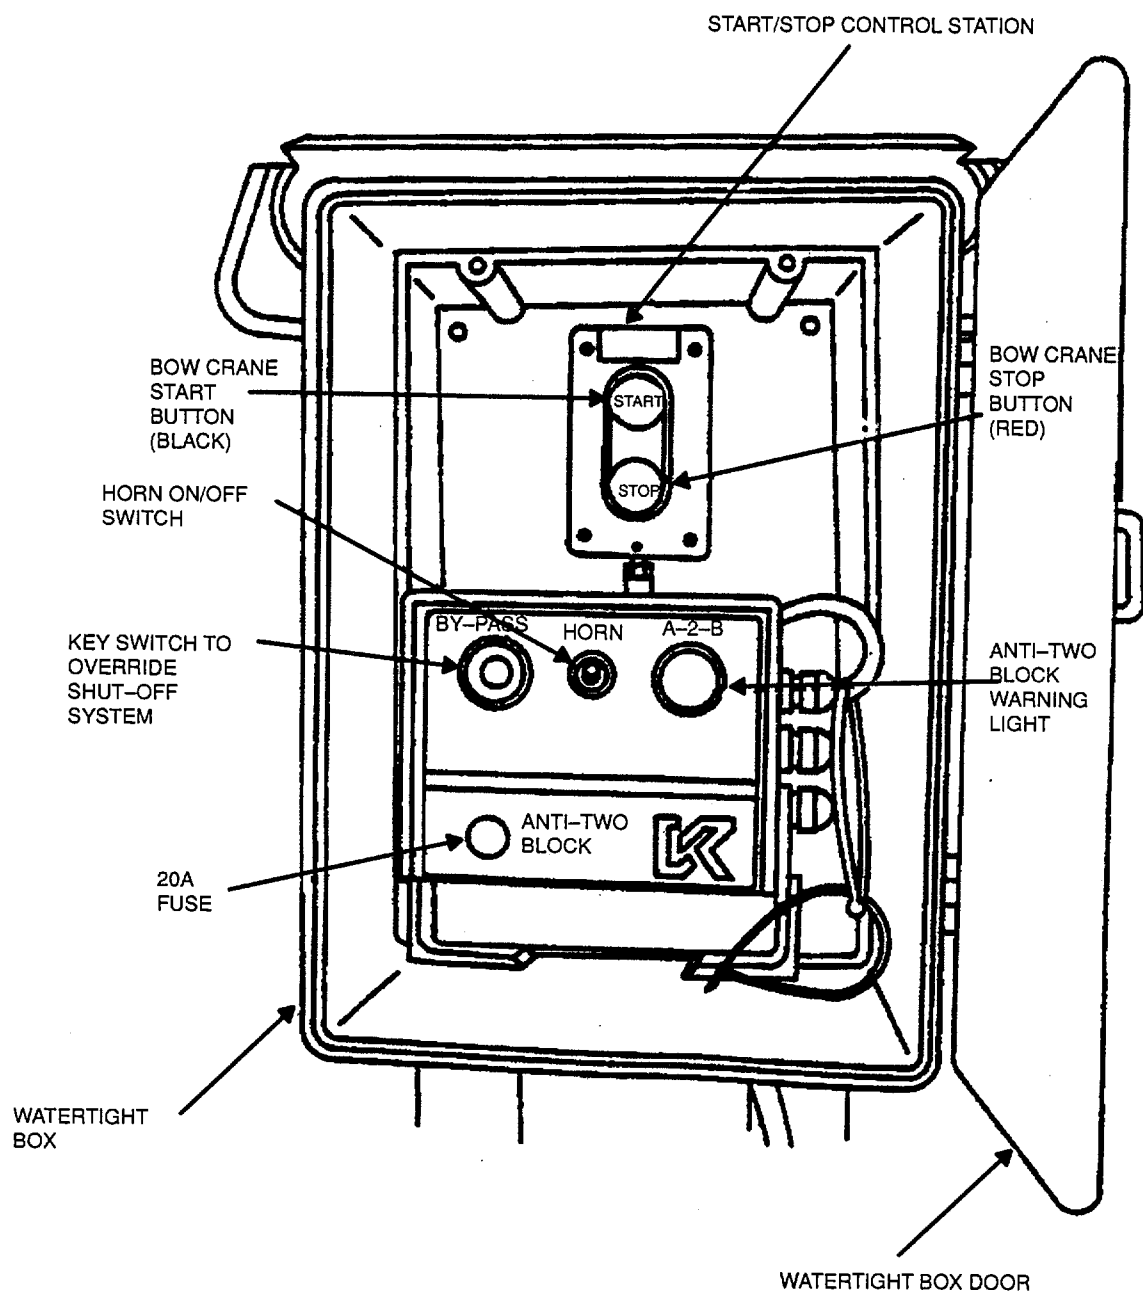

Figure 3-6. START/STOP Control Station and Anti-2-Block Control Box on Deskhouse Top
There is a START/STOP control station (Figure 3-6) for stopping and starting the crane hydraulic unit and an anti-2-block control panel in a watertight storage box aft of the control levers. Another START/STOP control station, primarily for emergency use, is on the weatherdeck forward bulkhead.
- (1) Press STOP button on START/STOP control station (Figure 3-6).
- (2) Set anti-2-block HORN ON/OFF switch to OFF (Figure 3-6).
- (3) Close and secure box.